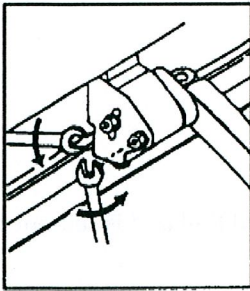
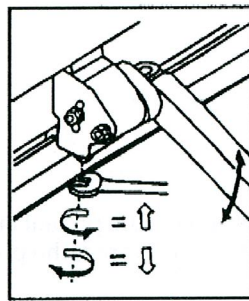
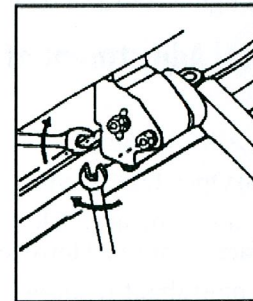

Figure 2a
Figure 2b
Figure 2c
The awning comes factory pre-set with a pitch angle of approximately 20 degrees. If it is desired to increase the angle, loosen the (2) lock nuts located on the outside upper joint of each arm using a 3/4" or 19mm wrench. See Fig. 2a. Adjust the arms DOWNWARD by rotating the bolt head at the bottom of the arm connection in a CLOCKWISE direction (looking from the bottom up). See Fig. 2b. Likewise, rotating the bolt in a COUNTER CLOCKWISE direction will RAISE the arm. After all arms are adjusted to the desired height, re-tighten lock nuts on the side of each arm. See Fig. 2c